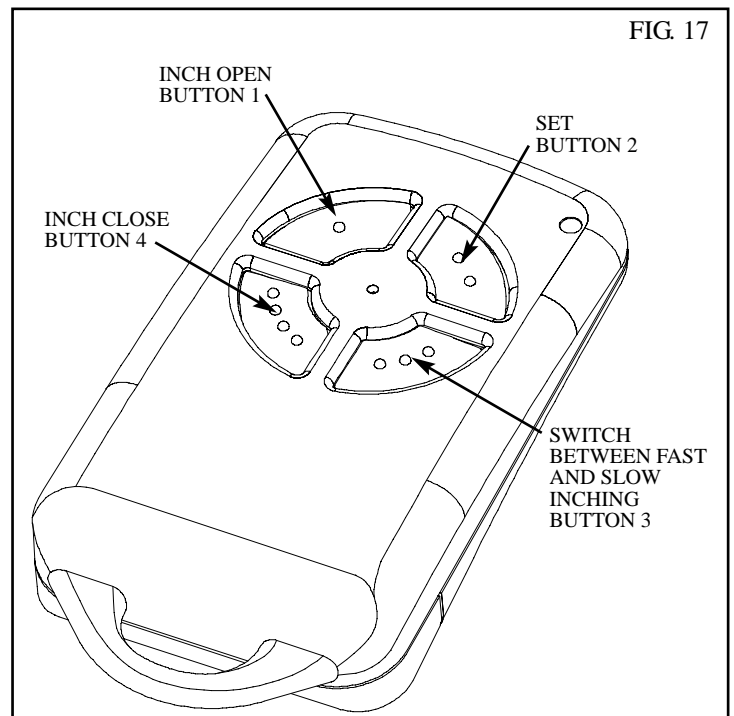

FIG. 17
5. Press button 1 (Fig. 17) on the transmitter for two seconds. Release and pause for two seconds. Press the same button again on the transmitter for two seconds.